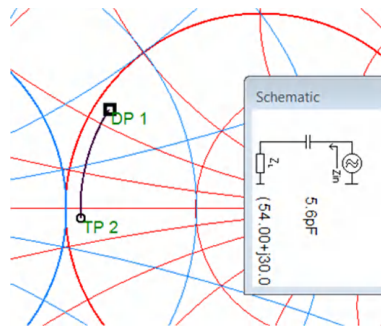

Figure 5-3. Matching the Low-Band With C_{LOW} : 5.6 pF and L_{LOW} : NC
- C_{LOW} : 5.6 pF and L_{LOW} : NC; see Figure 5-3